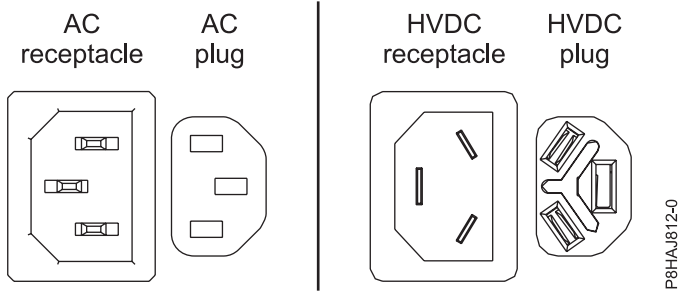
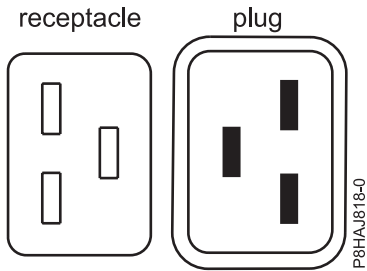
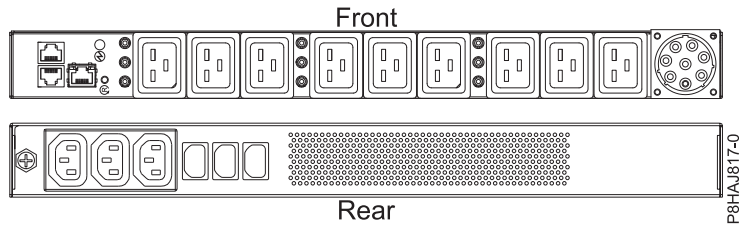

Figure 17. AC and HVDC connectors
Figure 18. Connectors for the 8408-44E system
Figure 19. PDU for the 8408-44E system
Figure 17 on page 37 shows the supported alternate current (AC) and high voltage direct current (HVDC) connectors. Figure 18 on page 37 and Figure 19 on page 37 show the supported connectors and power distribution unit (PDU) for 8408-44E.